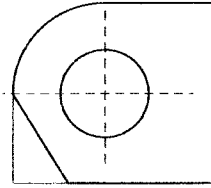

Figure 2
3. (a) **Figure 2** shows an elevation of a template.